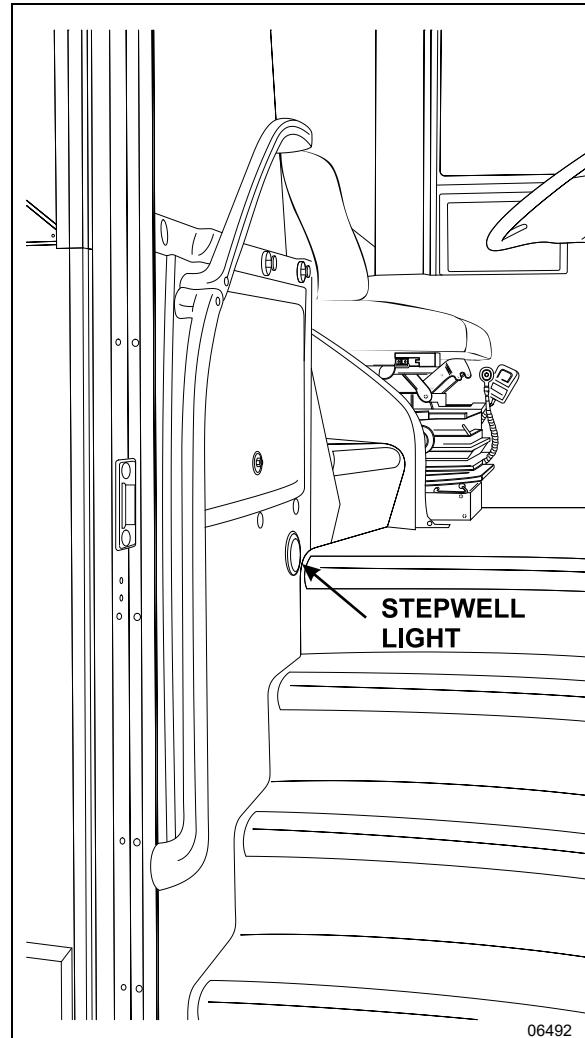

FIGURE 124: COACH ENTRANCE STEPWELL
3. To install a new switch, reverse the procedure (Figure 124)